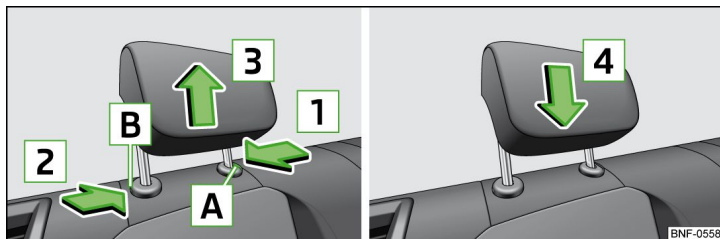

Fig. 47 Rear headrests: Removing / installing
- Press the locking button **A** and hold it in arrow direction **1** » Fig. 47.